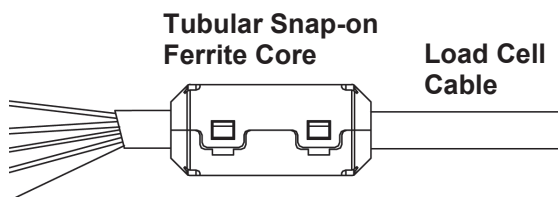

Figure No. 8
6. Attach the included tubular snap-on ferrite core to the outer insulation jacket inside the enclosure near the end of the jacket. Make sure sufficient pressure is applied to completely latch the core to the cable. See Figure No. 8.